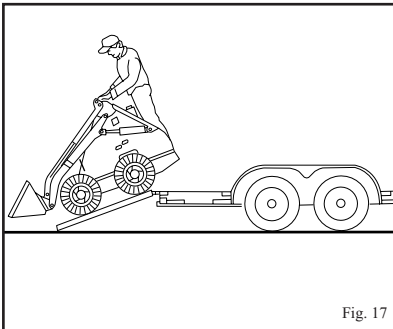

Fig. 17
2. A mini-loader should be driven backwards up a ramp onto the trailer or forward down a ramp. (Fig. 17).